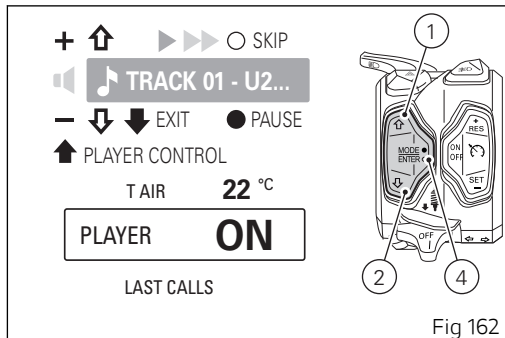

Fig 162
When the Player is turned on, within Player control page (Fig 162), button (1), button (2) and button (4) can only be used to control the Player:
- Volume up: Press button (1) once.
- Volume down: Press button (2) once.
- Pause / Play: Press button (4) for 2 seconds.
- Skip / Next track: Press button (4) once. Each press corresponds to a track skipped.